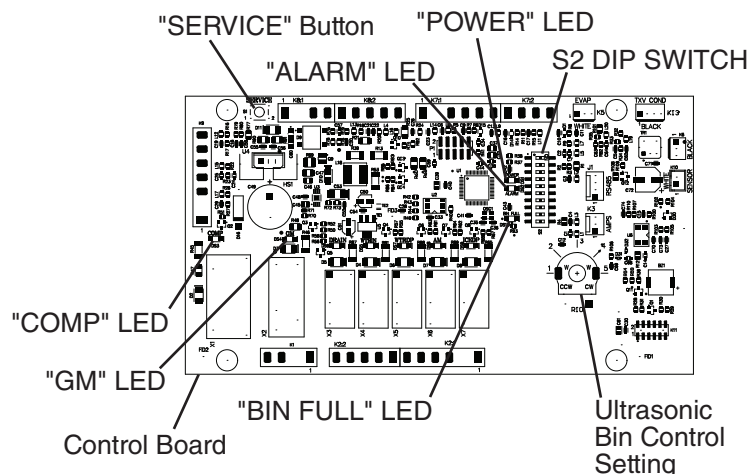

Fig. 19
- 5) Confirm the control board orange "BIN FULL" LED is off (bin empty). "POWER" LED is on. See Fig. 19.
- 7) Make sure the "GM" LED is on. See Fig. 19. There is a delay of at least 30 sec. before the "GM" LED turns on after power-up. After "GM" LED turns on, press the "Service" button on the control board to bypass the 5-minute compressor delay. **WARNING! Risk of electric shock. Care should be taken not to touch live terminals.** Confirm the "COMP" LED turns on.